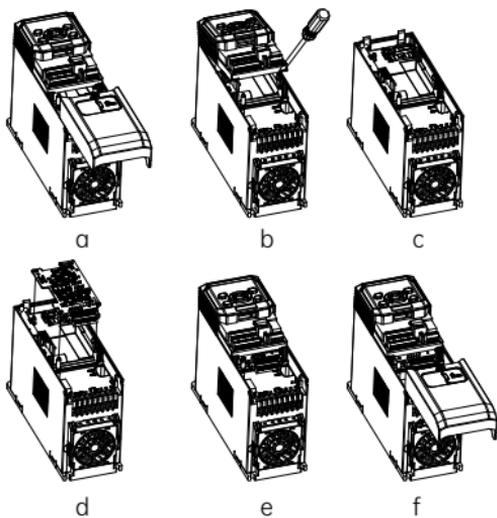

Fig. 2-3 Position 1 - PG card installation steps
- (1) When the drive is powered off, press the granulated part on the middle-upper of the lower cover, and slide it down firmly to take down the cover, as shown in Fig. 2-3 a.
- (2) Use a straight screwdriver to pry open the two snap-fit joints between the control box and the drive, and then remove the control box upwards, as shown in Fig. 2-3 b and c.
- (3) Install the PG\*1S card: Hold the PG\*1S card with its terminal block downwards, then align the three round holes on the PG\*1S card with the location column, and press down to buckle the PG\*1S card firmly into the four snap-fit joints, as shown in Fig. 2-3 d.
- (4) After the PG card is installed, align the control box with the snap-fit joints, and press down the control box to make its lower part firmly buckled, then slide the lower cover to lock it on the drive, as shown in Fig. 2-3 e and f.